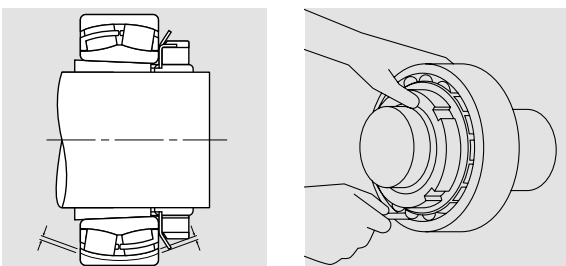

Fig. 2: Checking bearing clearance with bearing mounted on shaft.
6. Further tighten the nut until the clearance has been reduced by the amount shown in the chart on page 24 but when the bearing is mounted on the shaft the clearance should be checked under the rollers at the bottom of the bearing as shown in **Fig. 2**.